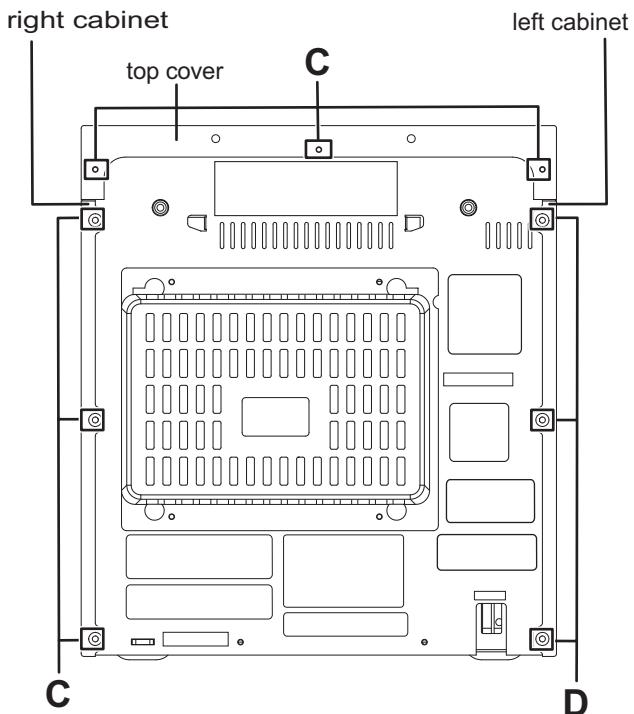

Fig.4
3.1.4 Removing the top cover right cabinet and left cabinet (See Fig.4 and 5)